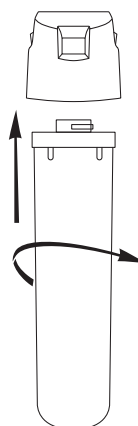

Fig. 3
- insert the new cartridge into the housing to a stop and, pressing it slightly, rotate the cartridge clockwise to a click. (fig. 3).
- Insert the new cartridge into the housing to a stop and, pressing it slightly, rotate the cartridge clockwise to a click. (fig. 3).